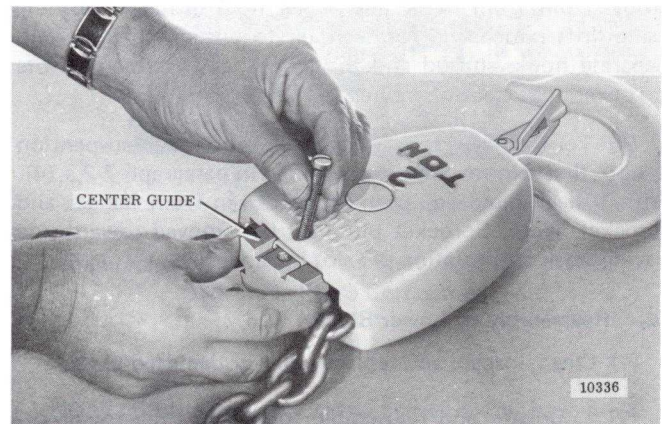
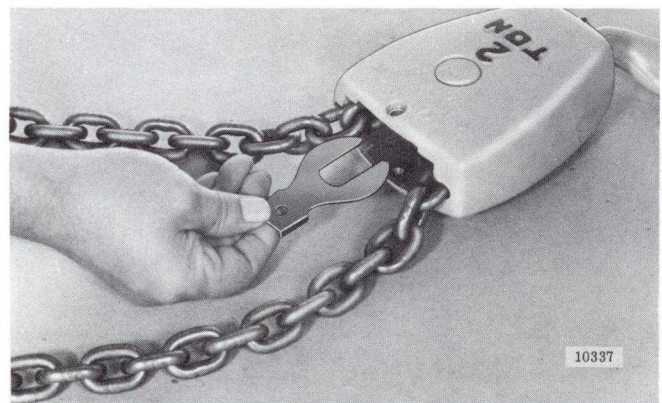

Figure 7-30. Removing Chain Center Guide from
Figure 7-31. Removing Sprocket Pin Lock On
(1) On 2-ton capacity roller chain models, remove retaining ring from one end of sprocket pin and press pin from lower block body. Grasp chain and pull out sprocket and two spring washers from body. Do not remove needle bearing from sprocket or pressure lube fitting from sprocket pin unless replacement is necessary.
(2) On 2-ton capacity coil chain models, remove fillister head screw securing center guide in top of lower block body and lift out guide (Fig. 7-30) and sprocket pin lock (Fig. 7-31). Press sprocket pin from body and pull out chain, sprocket and washer (Fig. 7-32). Do not remove bushing type bearing from sprocket or pressure lube fitting from sprocket pin unless replacement is necessary.
(3) Do not attempt further disassembly of 2-ton lower block assemblies. The hook nuts are welded in place by the factory. Only complete lower block assemblies or body and hook assemblies are available for replacement.